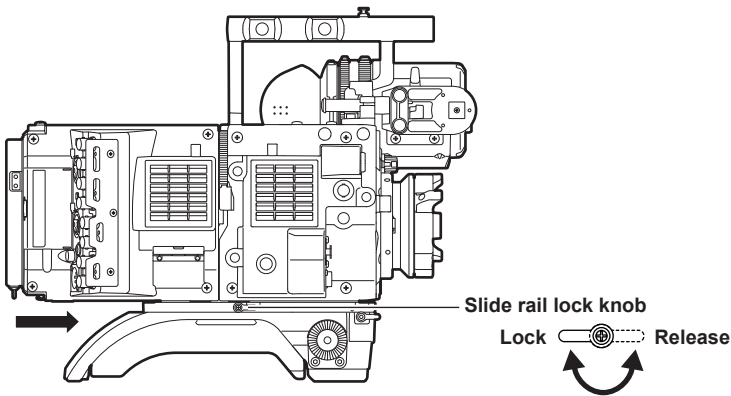

Fig. 3
- 4** Slide the camera forward along the groove in the shoulder mount module from the rear until it clicks. (Fig. 3)